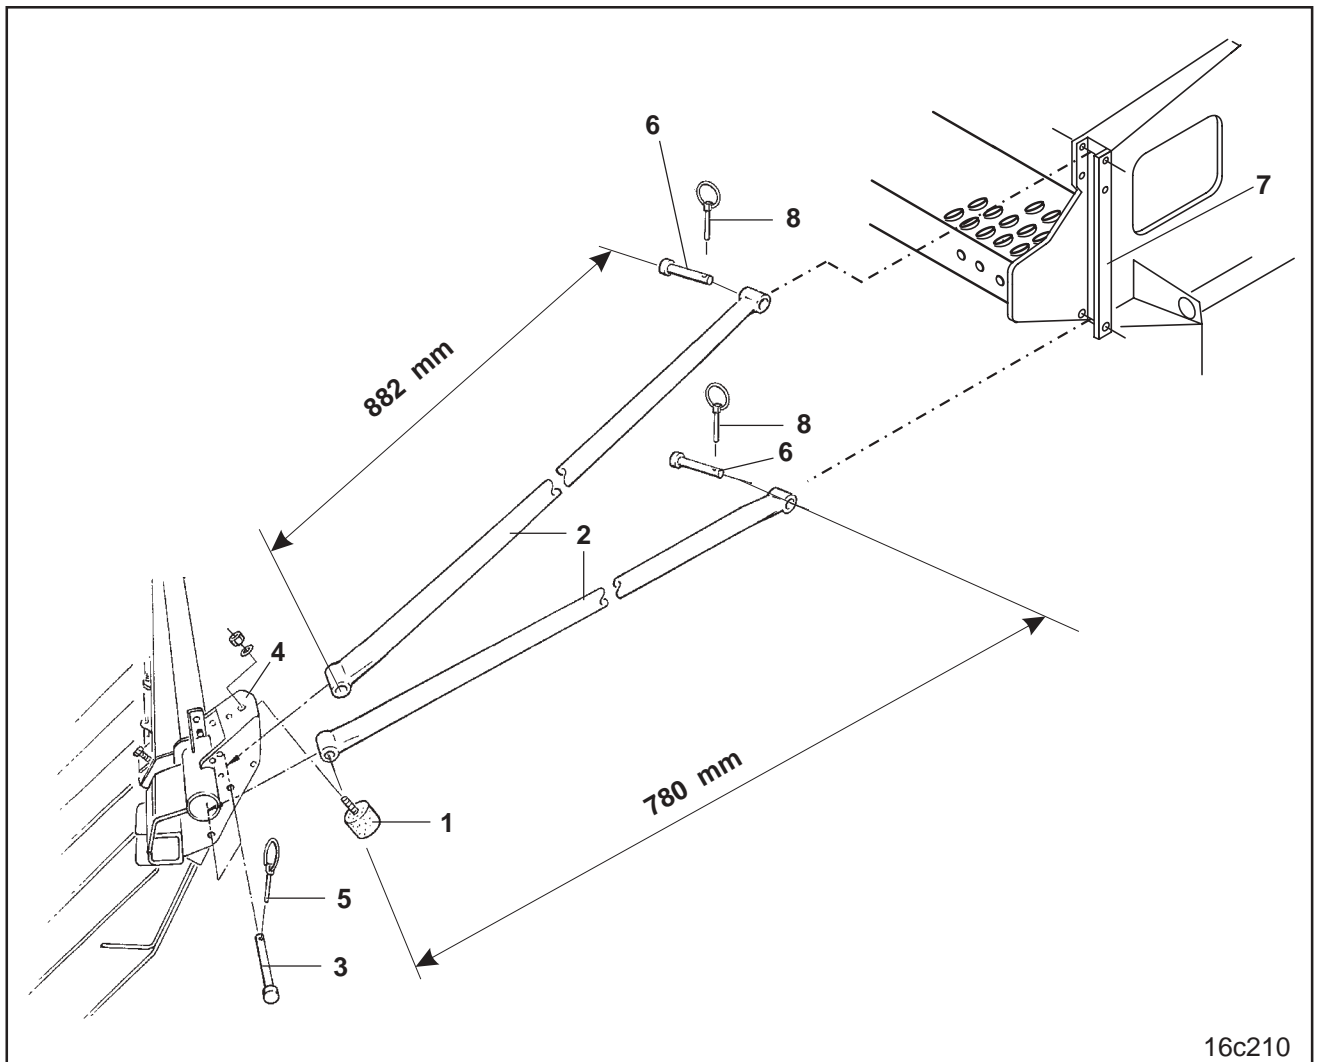

Fig. 13.2
- Bolt on swing-metal buffer (Fig. 13.2/1).
- Set fixing tubes (Fig. 13.2/2) with pins (Fig. 13.2/3) on the retainers (Fig. 13.2/4) of the extra coverage following harrow and secure with clip pins (Fig. 13.2/5).
- Set fixing tubes (Fig. 13.2/2) with pins (Fig. 13.2/6) on the pockets (Fig. 13.2/7) and secure with clip pins (Fig. 13.2/8).